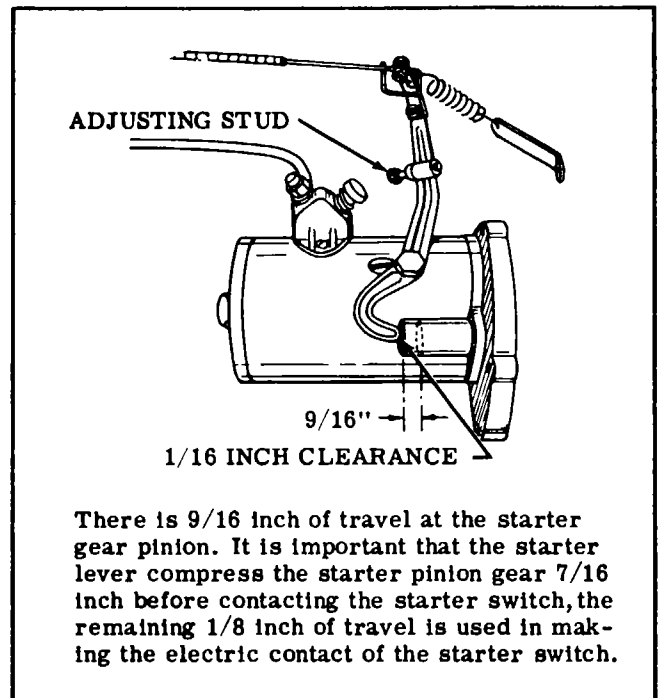

Figure 12-1. Starter Lever Adjustment
4. Starter control at starter. Refer to figure 12-1 for adjustment of the control.
- e. Rig control and starter adjusting stud to obtain the travel and clearance specified in figure 12-1.